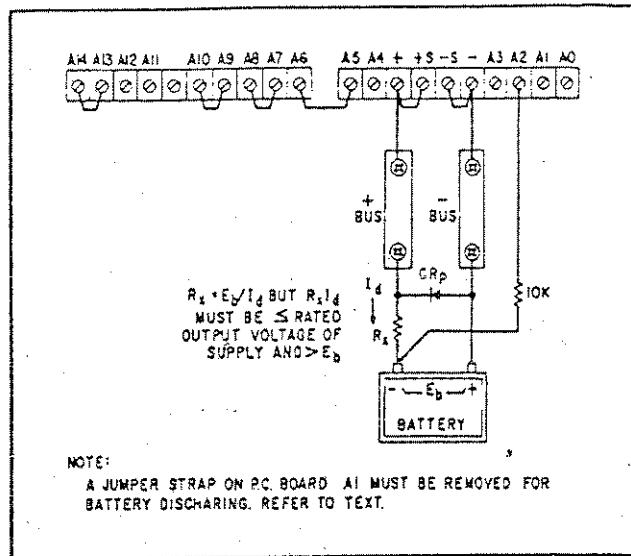

Figure 3-11. Battery Discharging
**3-59 Automatic constant current, unattended discharging** of a battery using the SCR-10 Series requires certain changes in the strapping configuration on the rear barrier strip as illustrated in Figure 3-11. Also, a jumper strap on P.C. Board A1 must be removed (see Figure 7-1 for location). Removal of this jumper ensures that the internal programming current does not flow into terminal A2. Before operation, the user should make sure that the interconnecting leads between supply and battery are secure and cannot become opened.
**3-60** The supply initially operates in constant current mode at the value set by the current control. When the battery voltage is high the supply output voltage will be low, and as the battery discharges the supply output voltage increases. A constant voltage is maintained across  $R_X$  (constant current through  $R_X$ ). This condition will prevail until the battery voltage drops to zero. At this point, the supply will switch off and no more current will flow through  $R_X$ . Diode CRp protects the supply against reverse voltages. As shown on Figure 3-11,  $R_X$  must be selected so that its IR drop is less than the maximum rated output of the supply yet greater than the battery voltage.